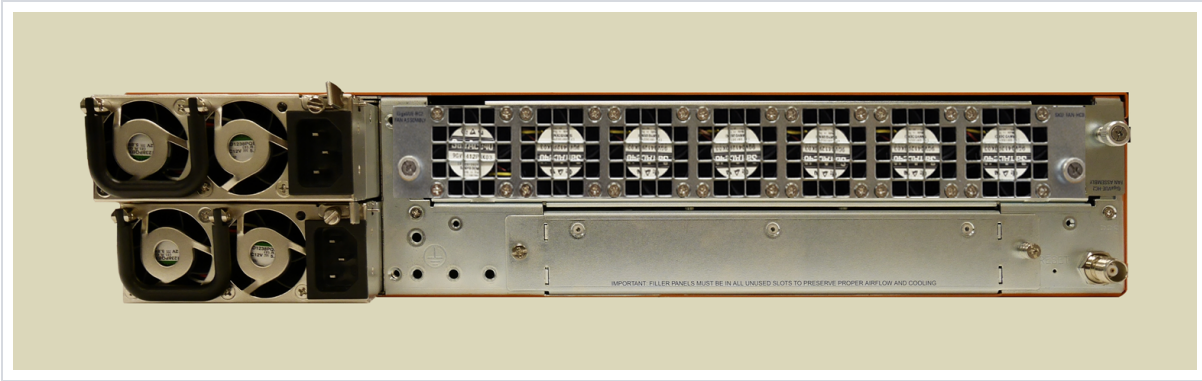

Figure 4: Power Module (AC Version Shown)
3. Carefully slide the first power module into the matching receptacles at the rear of the node (Figure 4: Power Module \(AC Version Shown\) on page 37), making sure to fit the tab at the base of the module into the matching bay at the bottom of the receptacle. Push gently to seat the unit firmly in the chassis.